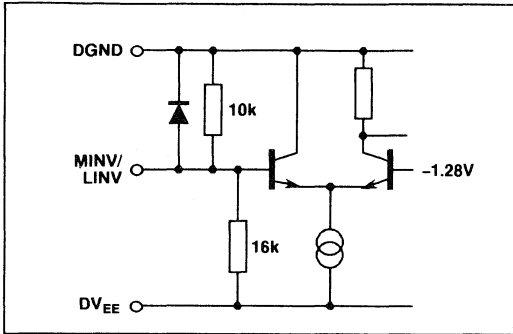

Fig.9 MINV/LINV input
**Output Coding (Table 1 and Fig. 9)**